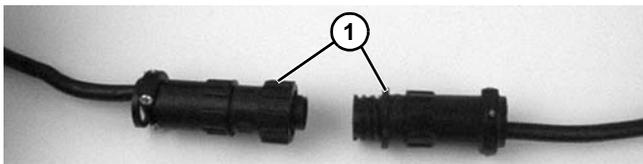

Figure 37
- a. Loosen terminal box screws (**Figure 37, item 1**) and remove cover (**Figure 37, item 2**).
3. For DC variable speed motor, unplug motor cord at disconnect (**Figure 37, item 1**).